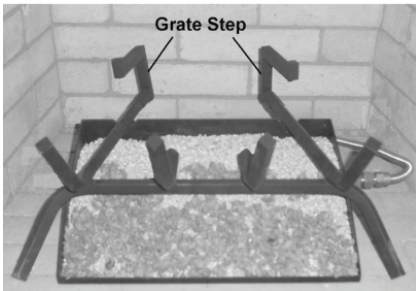

Figure 10 - Installing Grate Steps
1. Slide the two rear log grate steps over the two outer horizontal supports on the grate as shown in Figure 10.